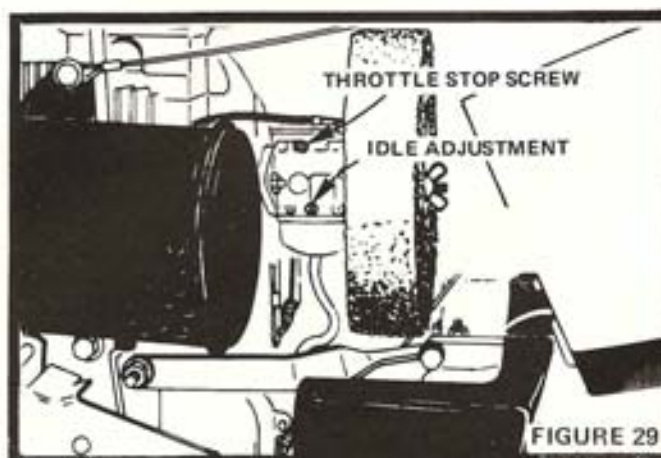

FIGURE 29
- Turn idle adjustment needle (Fig. 29) clockwise closing finger tight ONLY. Then turn counterclockwise one turn.
- Throttle stop screw (Fig. 29) should not require adjustment. If resetting is necessary, set to obtain the slowest engine speed at idle (throttle control in slow position) that will allow smooth acceleration.
Make necessary adjustments (Fig. 29)